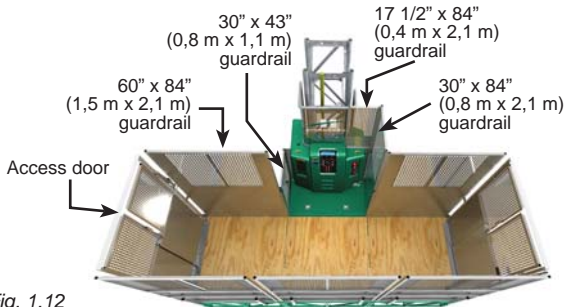

Fig. 1.12
Appropriate guardrails must be installed on each transport platform bridge to ensure the safe transport of workers and material at all times. Guardrails must be installed according to the configuration (fig. 1.12).
- 1- Using bolt assemblies, attach the straight filler to the 30" x 43" (0,8 m x 1,1 m) guardrail (fig. 1.13), making sure to install the straight filler on the appropriate side, according to the configuration. See fig. 1.12 for more information.
- 3- Using bolt assemblies, attach the 17 1/2" x 84" (0,4 m x 2,1 m) guardrail to the 30" x 84" (0,8 m x 2,1 m) guardrail (fig. 1.14), making sure to install the 17 1/2" x 84" (0,4 m x 2,1 m) guardrail on the appropriate side, according to the configuration (fig. 1.12).